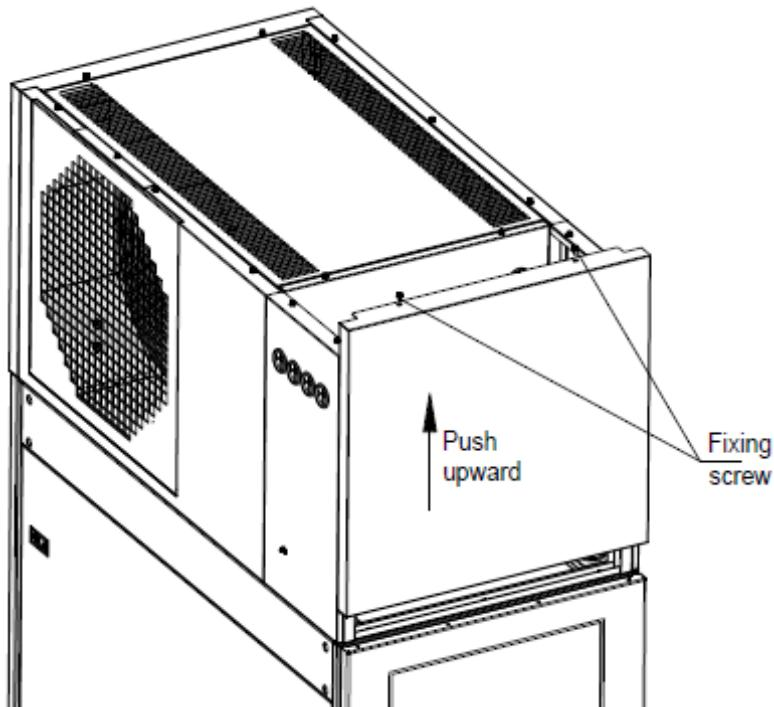

Figure 2-24 Removing the rear cover of the top body frame
1. Initially, open the outer cover on the rear part of the body frame. Remove the 2 fixing screws on the top of the cover and push upward to remove the cover. Figure 2-24 shows the procedure for the same.